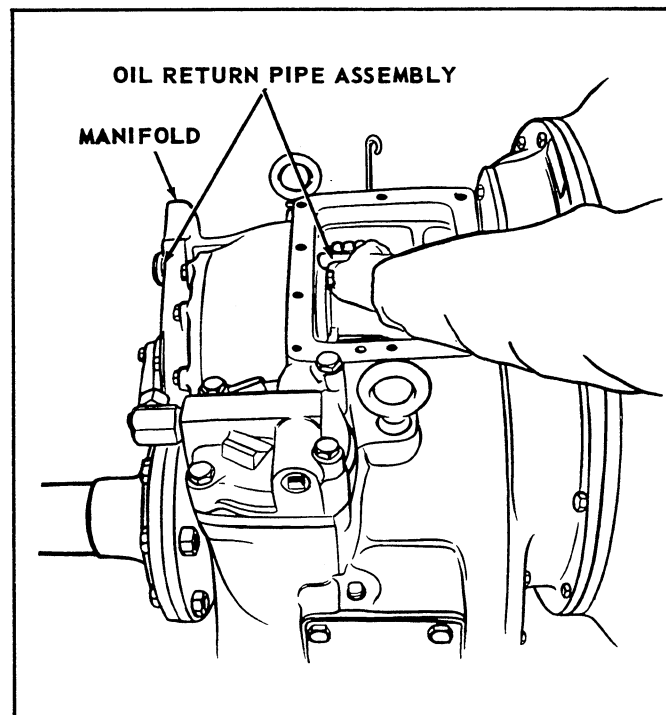

Figure 23. Removing the Oil Return Pipe Assembly.
(6) Reach down through the top cover plate opening in the main housing, and firmly grasp the oil return pipe assembly (Fig. 23). Carefully push the oil return pipe assembly rearward through the manifold, and remove the return pipe and the corprene ring gasket from the manifold. Discard the gasket. On marine gears with a tube carrier assembly installed on the oil return pipe, it is necessary to remove the hex-head capscrew and lock plate that secure the tube carrier assembly to the oil return pipe prior to the removal of the return pipe. As the return pipe is removed from the manifold, it is necessary to hold the tube carrier to prevent the carrier from damage as a result of falling into the gear.